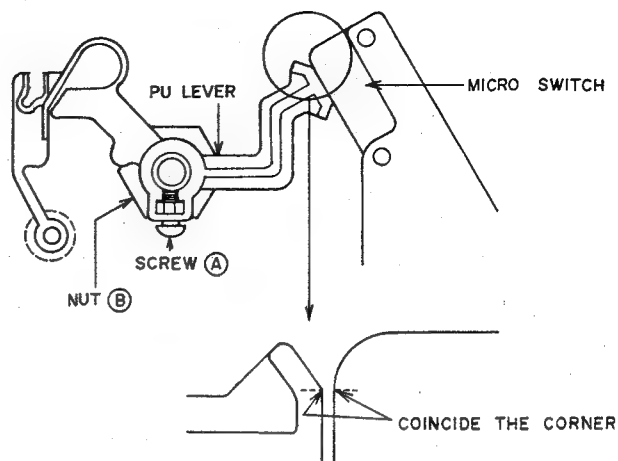
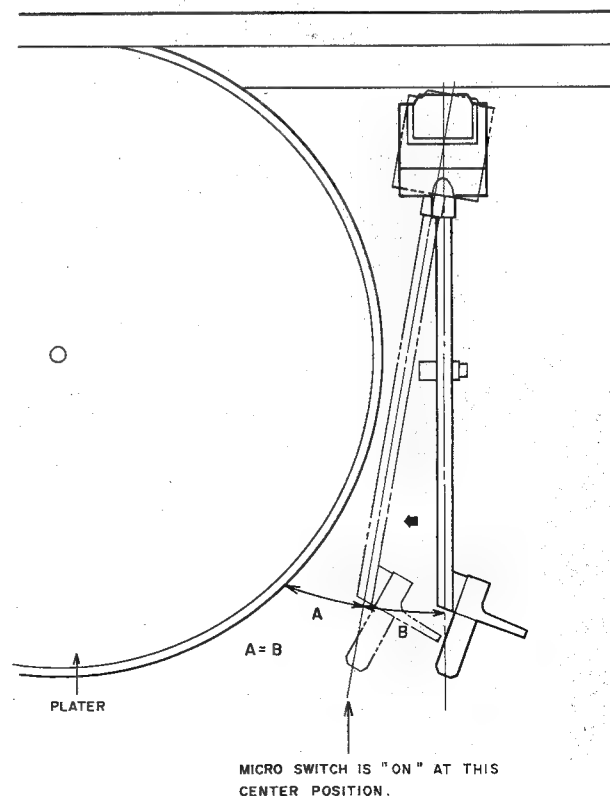

Fig. 7-4
Fig. 7-5
ADJUSTMENT (Refer to Figs. 7-4 & 7-5)
- 2) Loosen the Screw (A), and confirm that the PU LEVER is installed all the way in the Nut (B).
- 3) Turn the PU LEVER so that the corner of those PU LEVER and Micro switch are coincide as shown in Fig. 7-4.
- 4) Tighten the Screw (A).
- 5) Move the Tone Arm to the spindle side, and confirm that micro switch is switched "ON" at about center between Tone Arm Rest position and plater as shown in Fig. 7-5.